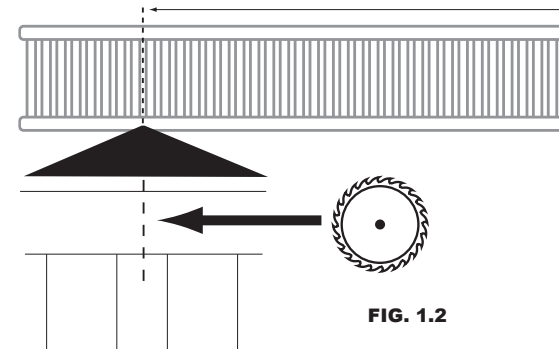

FIG. 1.2
Shelf lengths and Wardrobe Bars may need to be cut depending upon configuration desired. Please refer to Fig. 1.2 for recommended cut location.
4. Using the length measurements for the TOP (A) shelf obtained from your selected configuration (refer to selected configuration layout), measure and cut to length if required. (See Fig. 1.2 for recommended cut location). (Note: Cut at center of line during shelf cut. If cut location lands on a shelf slat, cut at the closest slat opening near line).